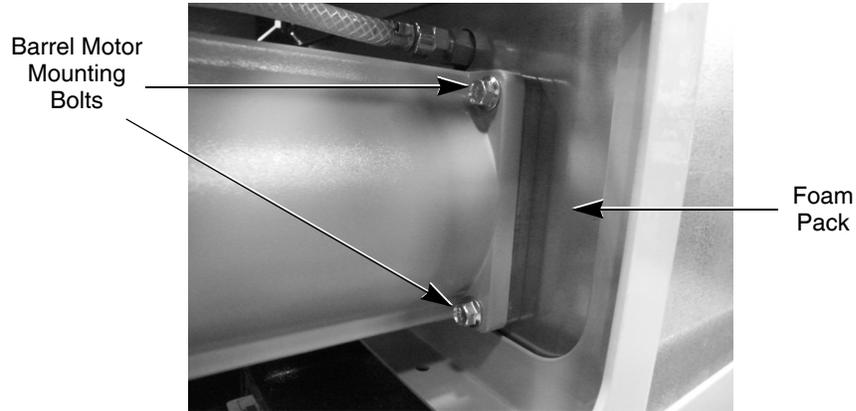

Figure 40. Side View of Motor Showing Two of the Four Mounting Bolts
The barrel motor does not require any special alignment when being replaced. It mounts on four (4) bolts. These bolts are screwed into threaded bosses in the foam pack barrel assembly, as shown in Figure 40. To replace a barrel motor, perform the procedure in Table 48.